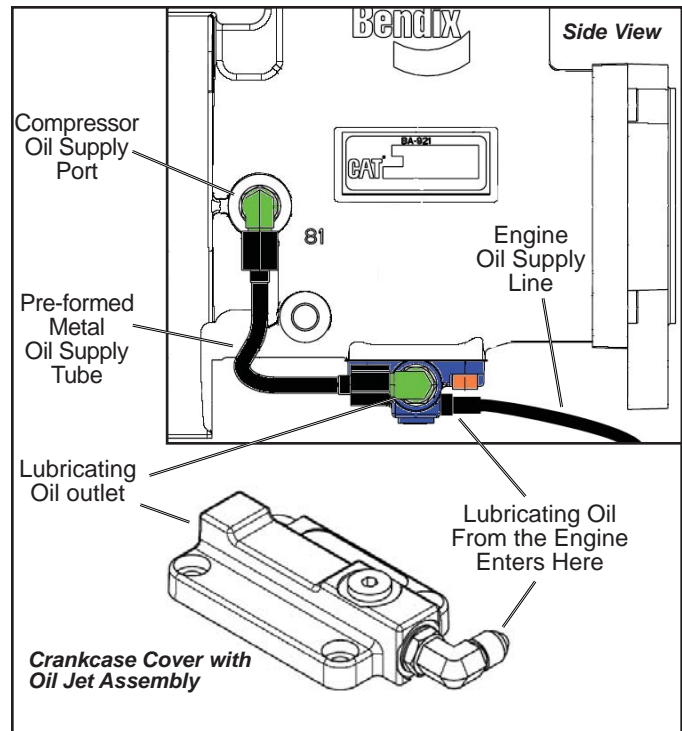

FIGURE 14 – VIEWS OF SPECIAL CRANKCASE COVER WITH OIL JET ASSEMBLY FOR CAT C11/C13 ENGINE APPLICATIONS
1. Position the crankcase cover gasket (27) on either the crankcase or crankcase cover and install the crankcase cover on the crankcase using the four cap screws. "Snug" all four cap screws then torque to 62-71 inch pounds (7-8 Nm) using a crossing pattern.
2. In the case of the Caterpillar C11 and C13 engine application, the compressor utilizes an "oil jet" that sprays oil under the piston for purposes of cooling. This oil jet is part of a special crankcase cover that is used strictly on the compressor for the C11 and C13 engine installation (Figure 14). Refer to section OPERATION – Lubrication for description of the system. To re-assemble, follow the instructions below.
- a. Position the gasket (27) on either the crankcase or the special crankcase cover and install the special crankcase cover on the crankcase using the four cap screws. Note: Make sure that the cover is orientated in its original position. "Snug" all four cap screws then torque to 62-71 inch pounds (7-8 Nm) using a crossing pattern.
w/ Oil Jet and Associated Hardware (Figure 14)